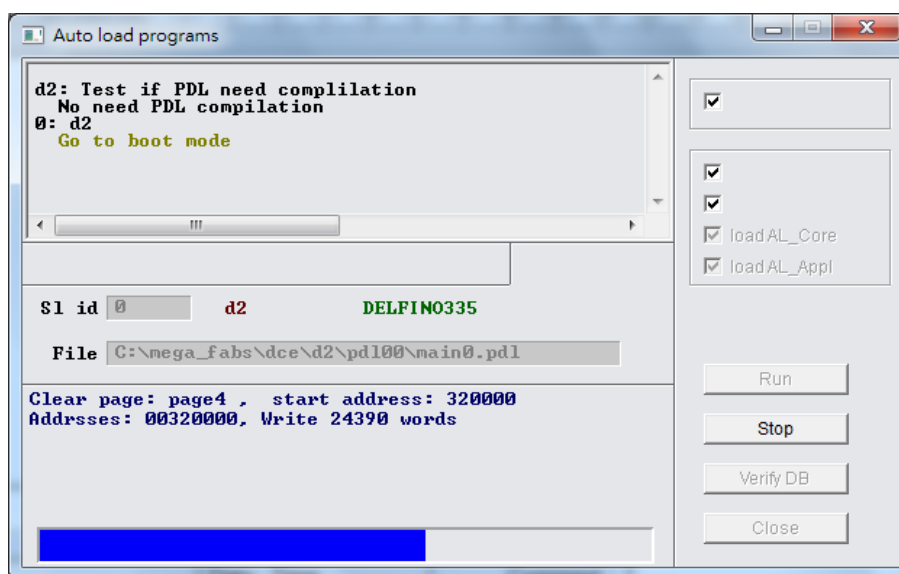

Fig. 4-28
- Step 3. Click **Confirm** to open the window of "Auto load programs". The firmware will be loaded to drive automatically, as shown in Fig. 4-28.